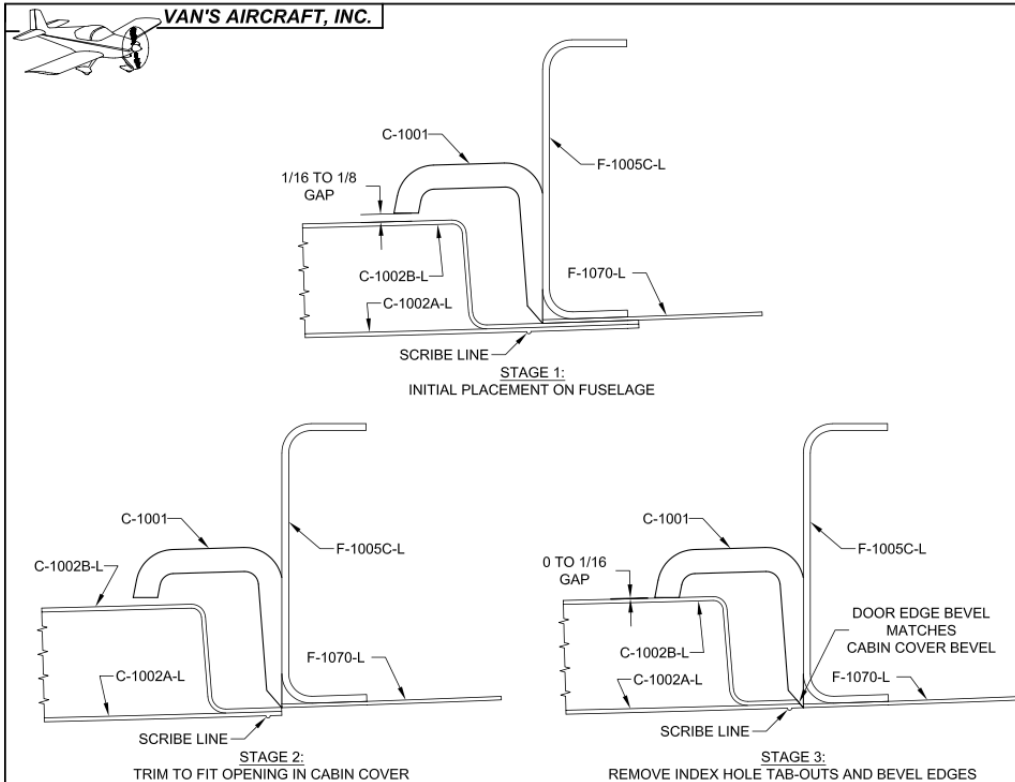

FIGURE 1: PROGRESSION OF DOOR TRIM AND FIT
Verify that there is a constant 1/16 to 1/8 inch gap between the C-1002B-L Door Inner Shell and the return flange of the C-1001 Cabin Cover. Trim or sand the cabin cover return flange if/as required to achieve the required gap. See Page 45-04, Figure 1, "Stage 1: Initial Placement on Fuselage".
Step 1: Using the open hole reference lines (or hole finder) drill #40 through the C-1002A-L Door Outer Shell/C-1002B-L Door Inner Shell into the open rivet holes in the fuselage. See Page 45-03, Figure 1. Install a cleco in each hole as it is drilled. If any mismatch occurs, the hole in the door inner/outer shells should be elongated rather than the hole in the fuselage. The clecos are used to hold the door inner/outer shells tightly to the side of the fuselage.